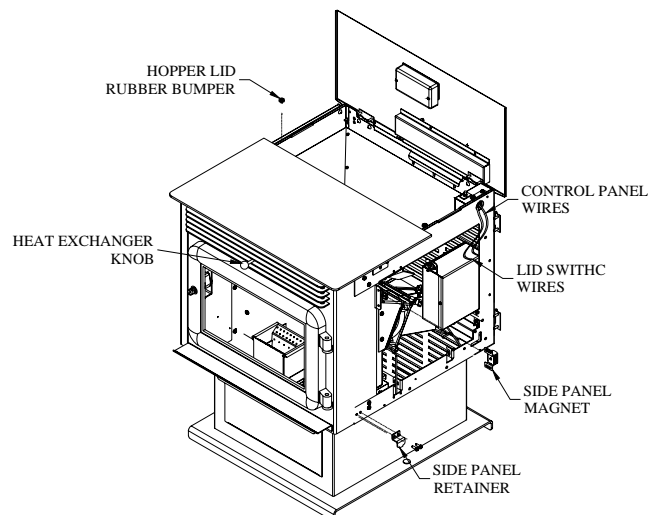

Figure 12
- 6- Insert the rubber lid cover bumpers in the holes and attach side panel magnets and retainers as shown in Figure 12.